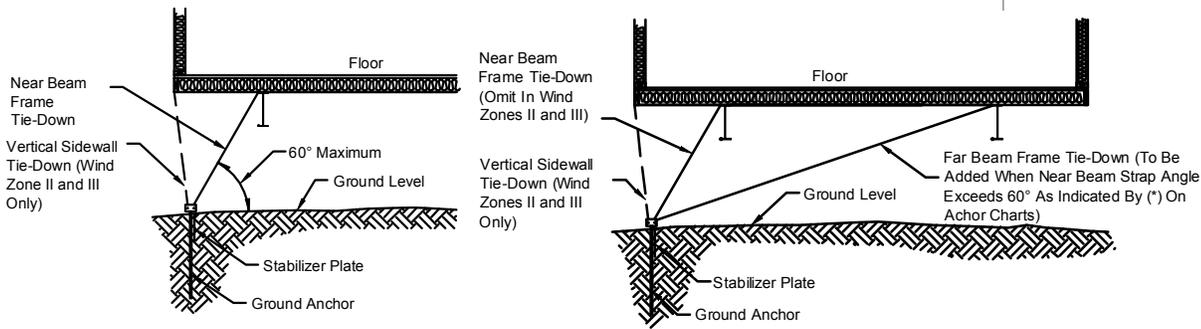

Figure 78. Lateral tie-down configurations
- Indicates a configuration that will require an additional strap connected to the far beam (see **Figure 78**).
- (1) 12' Box (24' wides) only.
* Indicates a configuration that will require an additional strap connected to the far beam (see **Figure 78**).